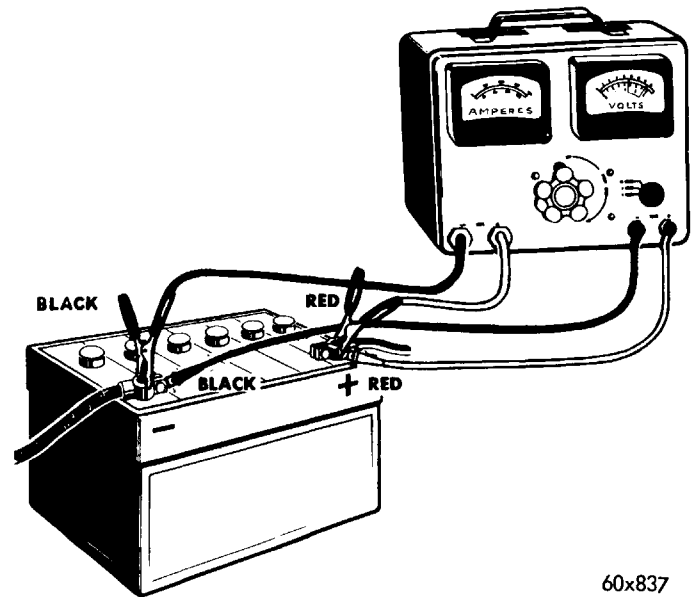

Fig. 4—High Rate Discharge Test
(3) Connect test ammeter and voltmeter positive leads to battery negative terminal and ammeter and voltmeter positive leads to battery positive terminal as shown in Figure 4. **The voltmeter clips must contact the battery posts or cable clamps and not the ammeter clips.**
(4) Turn control knob clockwise, until ammeter reading is equal to three times the ampere hour rating of the battery (180 amperes for a 60 ampere hour battery).
(5) Maintain load for 15 seconds, voltmeter should read 9.5 volts or more, which will indicate battery has good output capacity.